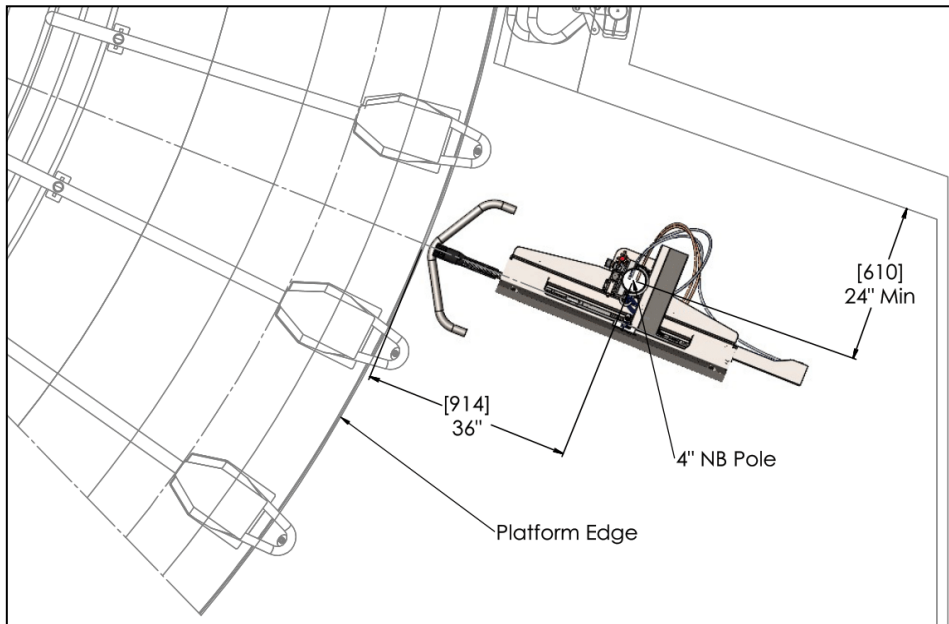

Figure 2. Pole location for angled stalls
- Mark centre point of Pole on floor. See *Figures 2 & 3*